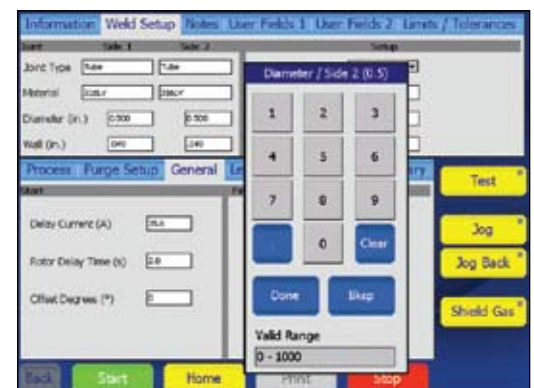

Fig. 14—Numeric Keypad
- Press the number keys (Fig. 14) to enter information. Press Done to save the settings and close the keypad.